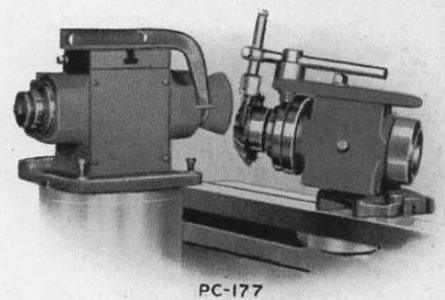

Fig. 24
**Grinding an Angular Cutter.** Grinding an angular cutter is very similar to grinding a shell end mill except that the work head is swiveled to the angle of the cutter. If the cutter has spiral teeth, the tooth rest must be fastened to the wheel head, but if it has straight teeth, the tooth rest may be fastened to the work head if it is impossible to fasten it to the wheel head. When the tooth rest is fastened to the work head, the clearance angle is obtained by tilting the head the desired number of degrees, and then using the centreing gauge and lining up one tooth parallel to the horizontal plane. (See Fig. 24)